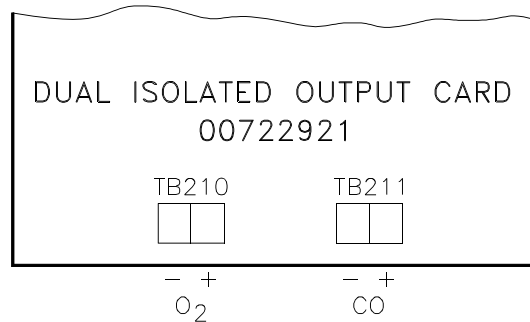

Figure 3.14 Isolated Oxygen and Combustibles Output Connections
3.5.4.1 Isolated Oxygen and Combustibles Output Card (See Figure 3.14)